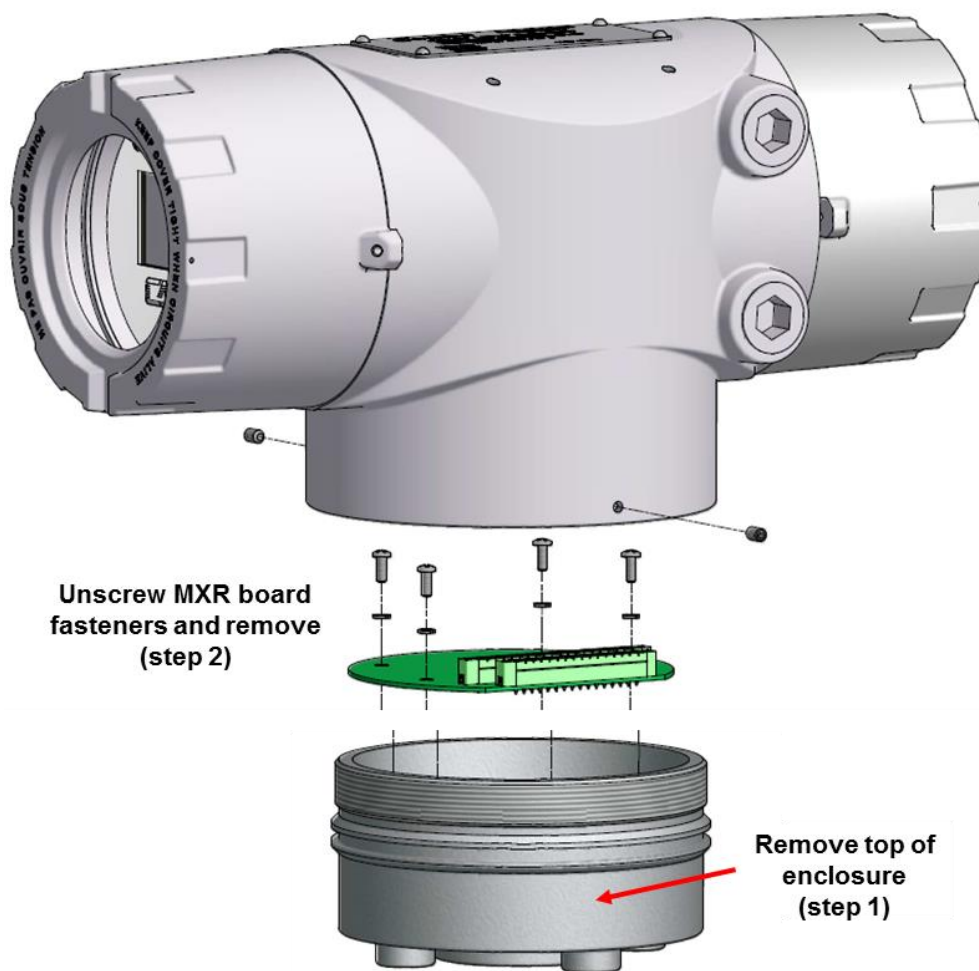

Figure 7.6a Disassembly Views for removing MXR
2. For MXR shown in Figure 7.6a, loosen the transducer wires connector flanges (two connectors) and disconnect both connectors. Push the transducer wires/connectors to the side so that the MXR can be removed. Remove ribbon cable from P1 connector. For MXR shown in Figure 7.6 b, disconnect both ribbon cables coming from the pipe nipple. Slide the ribbon cables to the side so that the MXR can be removed.